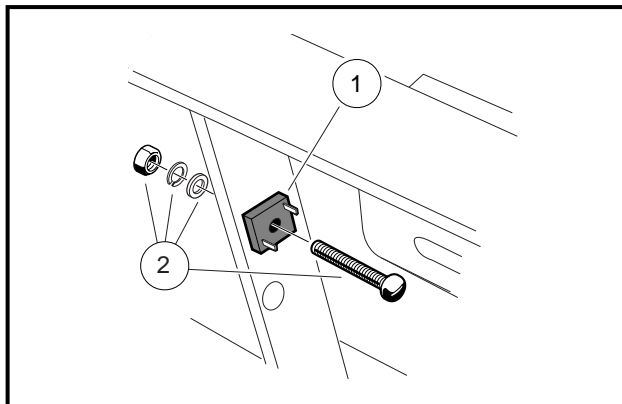

Figure 12-31 Headlight Diode
3. Disconnect wires from the headlight diode (1) (**Figure 12-31, Page 12-29**).
4. Remove the mounting hardware (2) from the headlight diode and remove it from the vehicle.
1. Mount the headlight diode to the frame using the mounting hardware. Tighten to 25 in-lb (2.8 N-m) (**Figure 12-31, Page 12-29**).